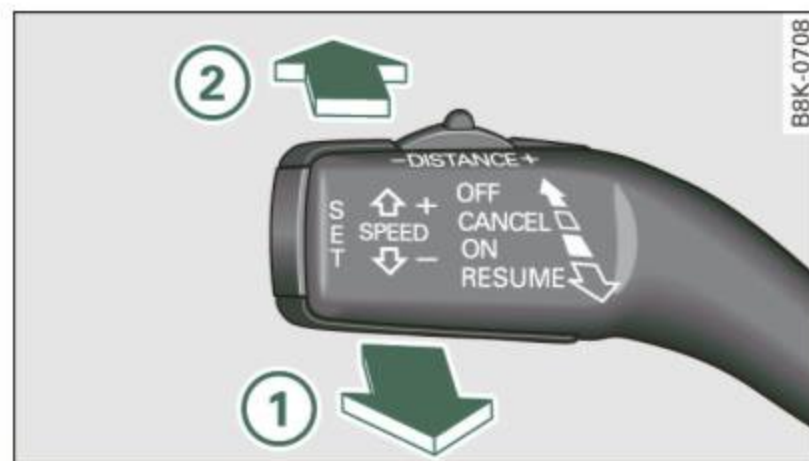

Fig. 126 Control lever: Turning adaptive cruise control off temporarily
- Press the lever in the direction of the arrow  ⇒ fig. 126.